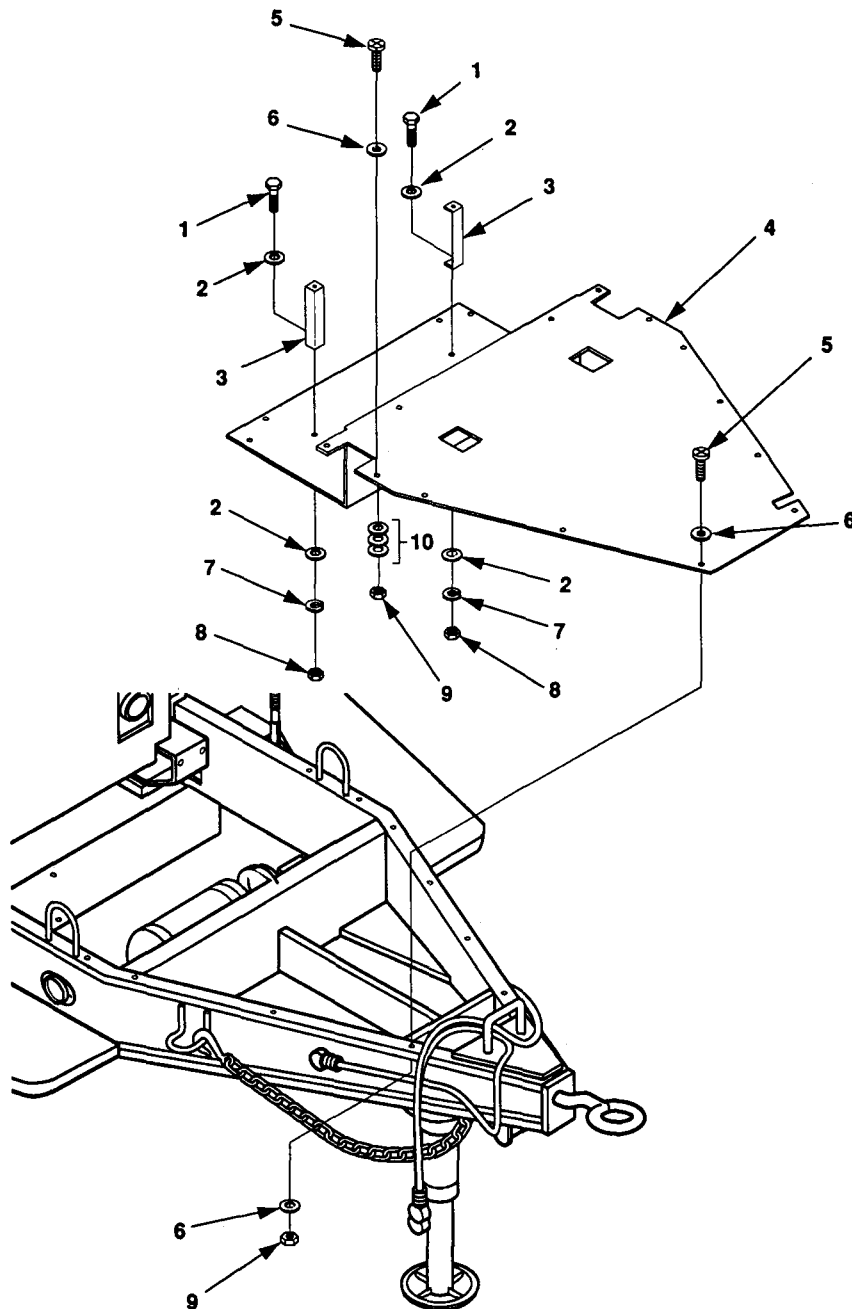

Figure 4-23. Front Platform Replacement, 2 1/2 Ton Trailer.
1. When removing the front platform on unit A refer to paragraph 4-12 and remove switch box. Remove two hex nuts (8, figure 4-23), flat washers (2), two lock washers (7), and two screws (1) that secure the two switch box supports (3).
2. Remove fifteen self-locking nuts (9), thirty-six flat washers (6 and 10), and fifteen screws (5) that secure the platform (4) to the trailer. Discard self-locking nuts.